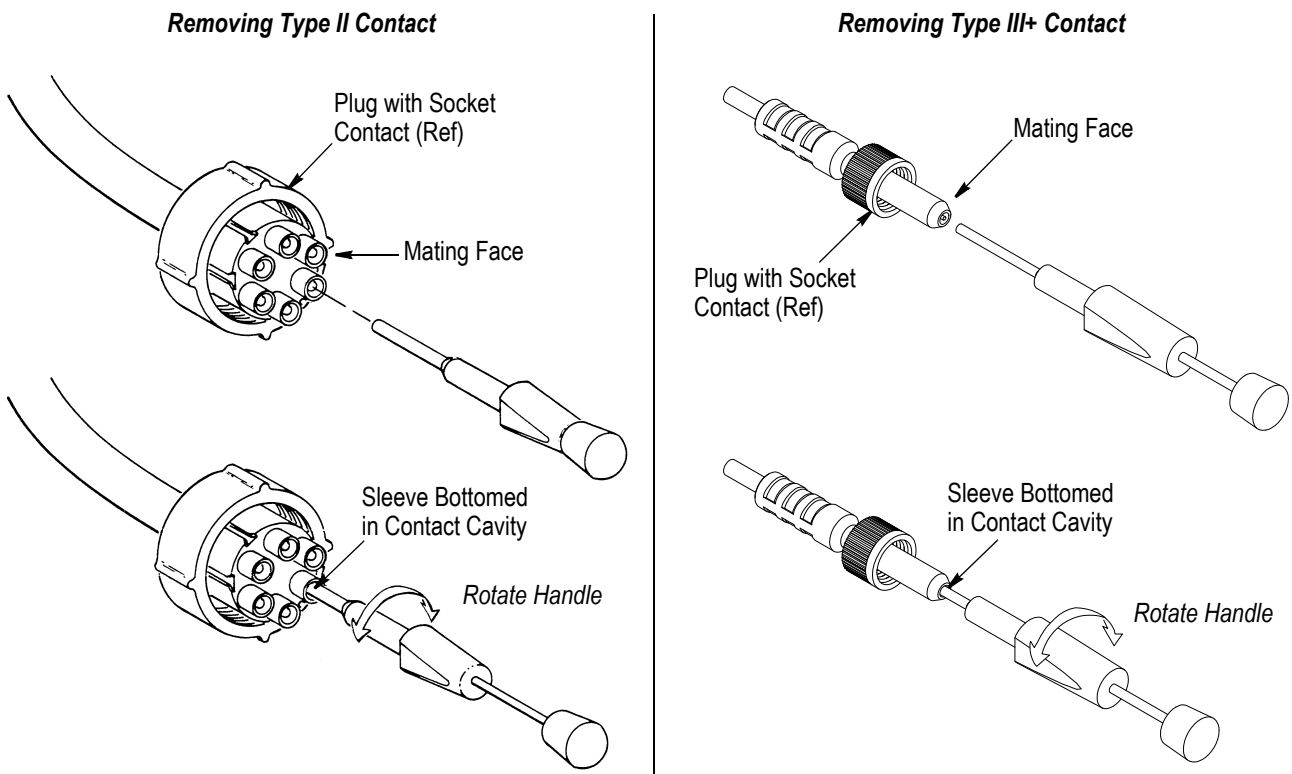

Figure 2
Make sure that the contact to be removed is compatible with this extraction tool. Then, refer to Figure 2, and proceed as follows (applies to both pin and socket contact):
2. Holding the handle, insert the sleeve straight into the contact cavity until the sleeve bottoms. Allow the push rod button to "back out" of the handle as shown in Figure 2.